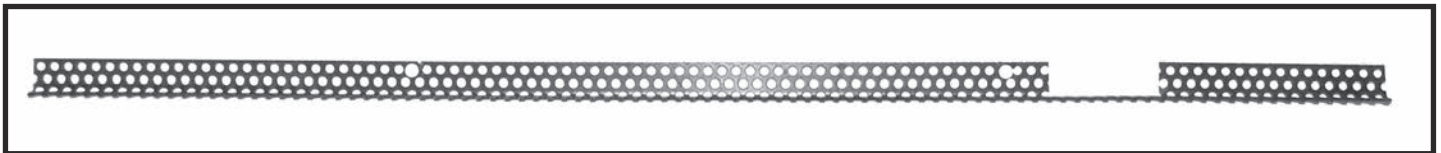
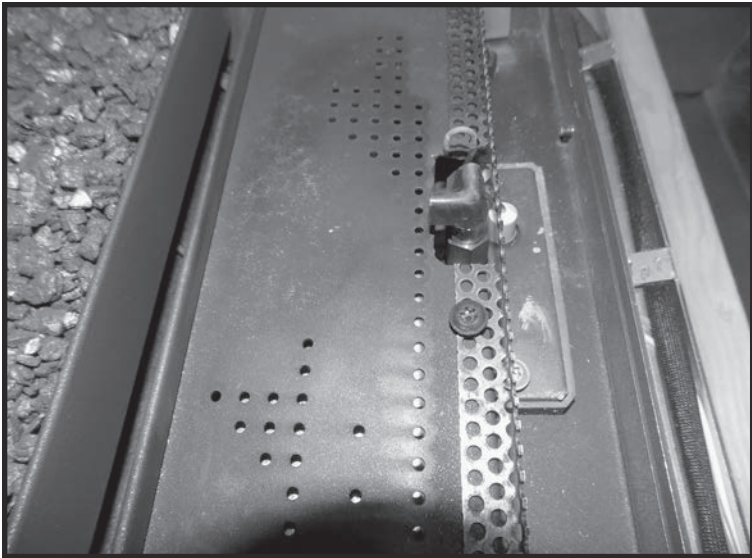

Figure 85: Front mesh guard.
Figure 86: Front mesh guard in place.
2. Use 2 screws to secure the front mesh guard (Figure 85) along the leading edge of the front burner. The gap on the right side of the guard will fit around the pilot assembly as shown in Figure 86.